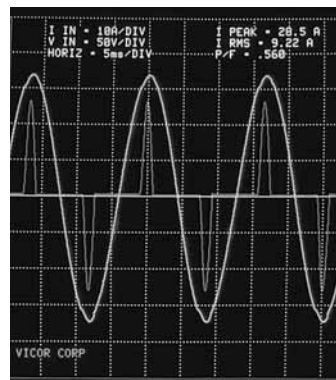

Figure 2a – Without PFC
- Figure 2a – Without power factor correction